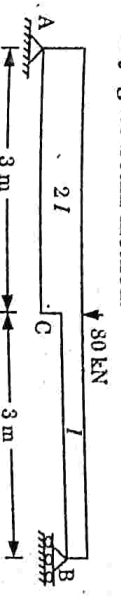

Fig. 3.
b. Determine the slopes at supports and deflection under the load for the beam shown in Fig. 3. Take Young's modulus E as 210 GPa, moment of inertia as 120 × 106 mm4. Adopt conjugate beam method.